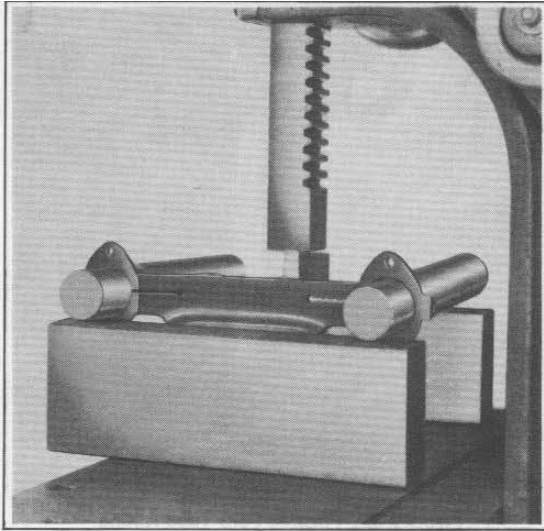

Figure 2-33. Correcting Bracket Bow
1. Insert the two 1-5/8 in. x 12 in. bars in fork bracket and secure with two clamping studs. Sometimes the bracket is so badly bent that the bars cannot be inserted. In this case, press the bars into place with an arbor press, then press on the front edge of bracket to correct the "bow" distortion as shown in figure 2-33.
Reference to vertical and horizontal centerlines applies to bracket and fork stem as positioned on arbor press (see figure 2-33).